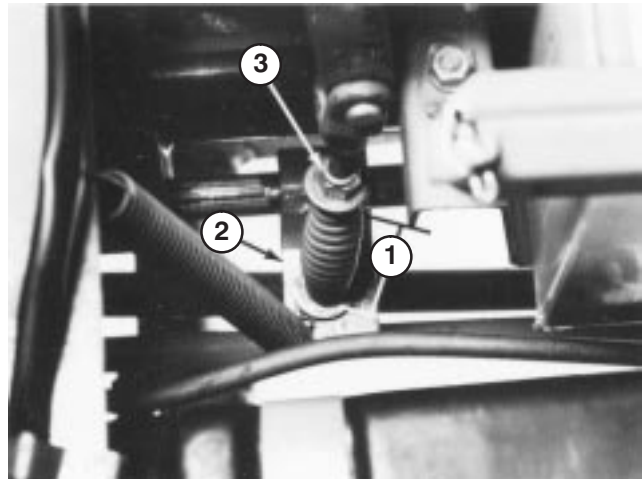

Figure 44
- 3. Measure length of PTO spring between flat-washers (Fig. 44). There should be a spring length of 3-3/16 inches (81 mm).
- 4. To adjust, hold head of adjusting screw with wrench (under PTO actuating arm) and turn locknut (Fig. 44).